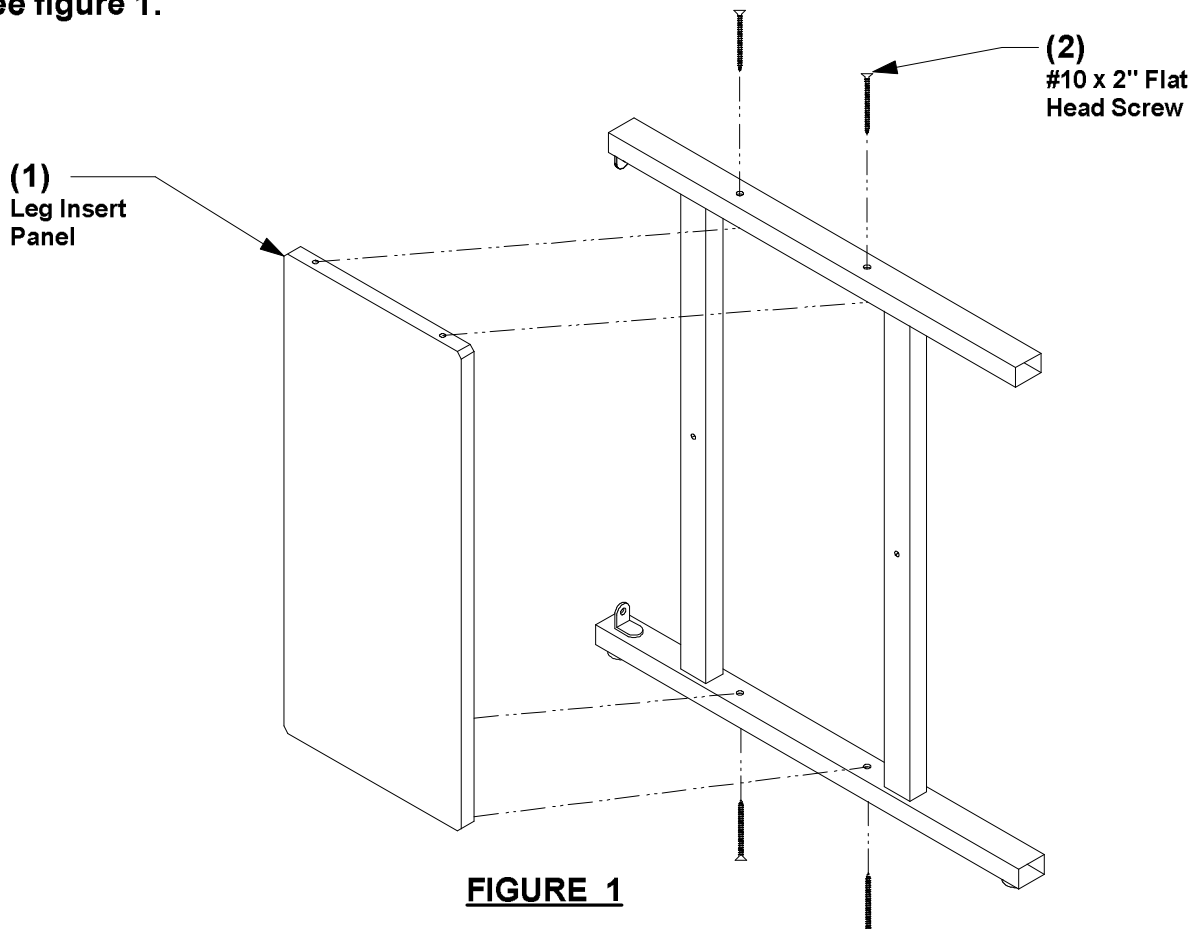

FIGURE 1
1. Insert leg insert panel into leg assembly. (Caution: leg insert panel must be inserted evenly) Attach leg assembly to insert panel using #10 x 2" flat head screws (2). See figure 1.